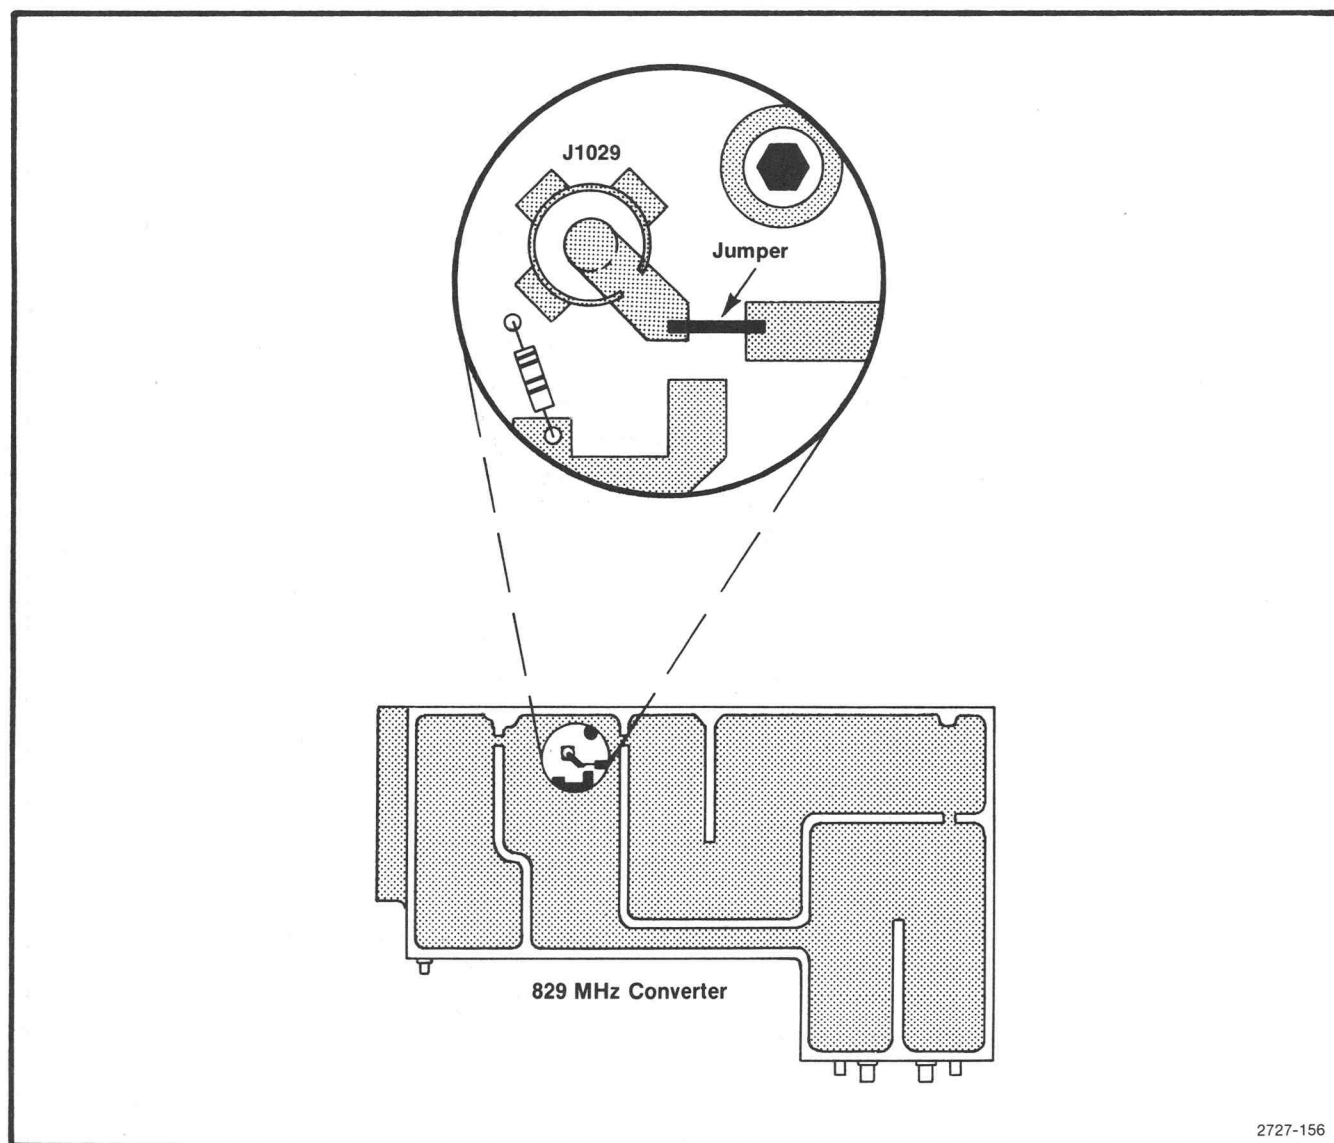

Fig. 4-13. Location of test jack and jumper on the 829 MHz amplifier board.
b. Unsolder and reconnect the jumper, on the 829 MHz amplifier board, to the test Peltola jack J1029 (see Fig. 4-13).